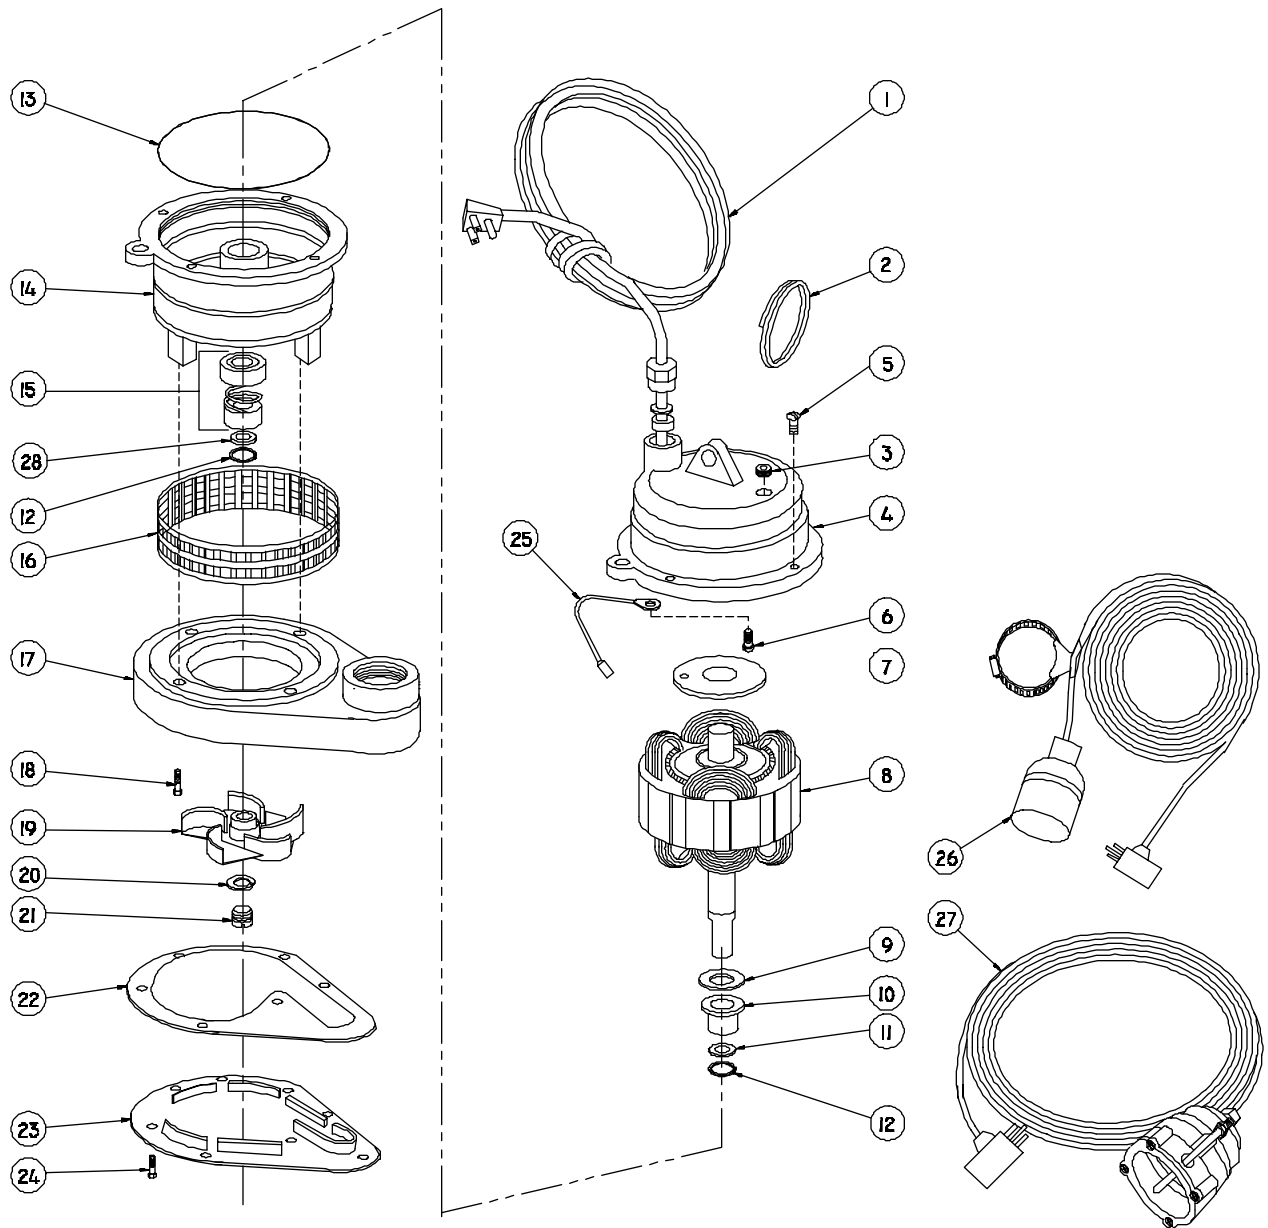

Fig. 4
**NOTE:** All item numbers ( ) refer to Figure 4.